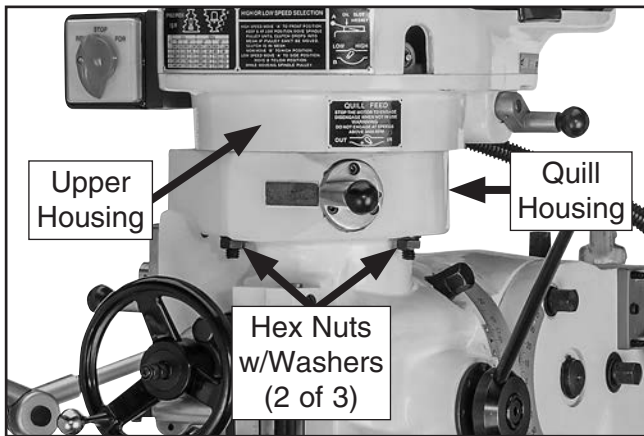

Figure 93. Location of hex nuts and washers that secure upper housing to quill housing.
- Remove (3) hex nuts with washers that secure upper housing to quill housing (see **Figure 93**).